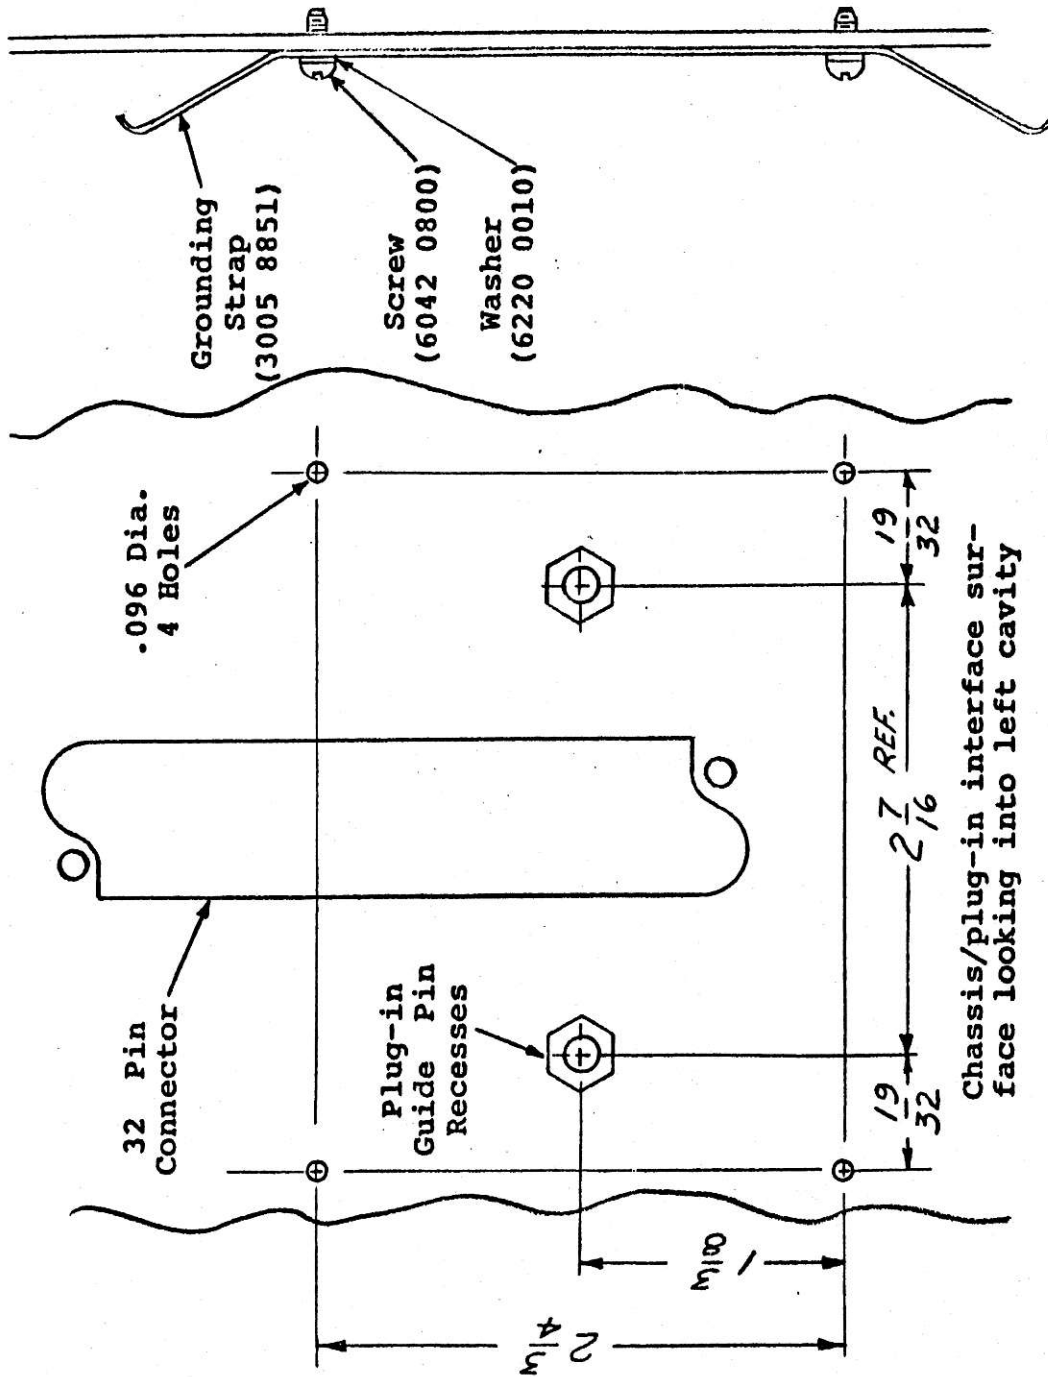

FIGURE 8. GROUND SPRING INSTALLATION DWG
D. GROUND SPRING INSTALLATION (Figure 8)
3. Locate and drill four 0.096 inch diameter holes in the chassis interface surface to which the plug-in mates. See Figure 8 to determine hole locations.